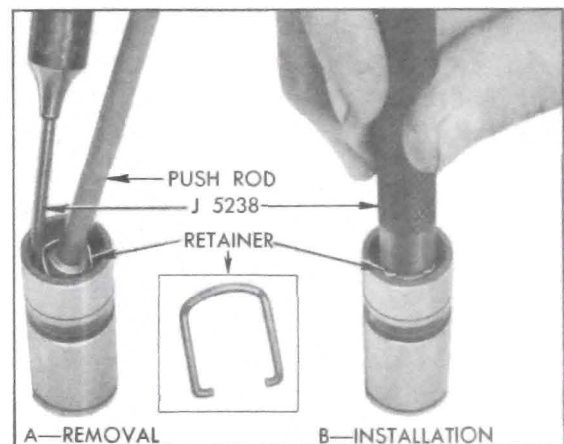

Figure 2-20—Removing and Installing Plunger Retainer
1. Disassemble each valve lifter by using a push rod to hold down the push rod seat while removing the plunger retainer from the lifter body, using Retainer Remover J 5238. See figure 2-20, View A. Remove push rod seat and plunger from lifter body.
3. Rinse push rod seat and plunger retainer, place these parts in end of body and depress with handle of Remover J 5238 until retainer engages groove in body. See figure 2-20, view B.